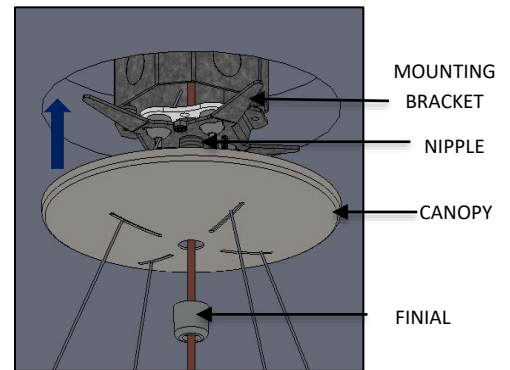

FIG. 16 - FINIAL INSTALLATION
11. Raise CANOPY and secure to ceiling by threading the FINIAL to the NIPPLE (MOUNTING BRACKET ASSEMBLY) until fully seated as shown in FIG. 16.